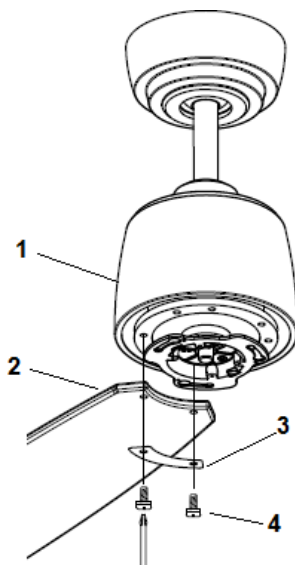

Fig. 8
- Insert the blade screws (4) through the blade assembly in the following order, bracket kit (3) and blade (2). Attach the blade assembly to the motor (1) and secure it by tightening the 2 screws (4). Fig. 8.
- Change the position of the DIP switches in the remote transmitter 1, so that it will be different to transmitter 2. Fig. 8
- Change the position of the DIP switches in the remote transmitter 2, so that it will be different to transmitter 1. Fig. 8